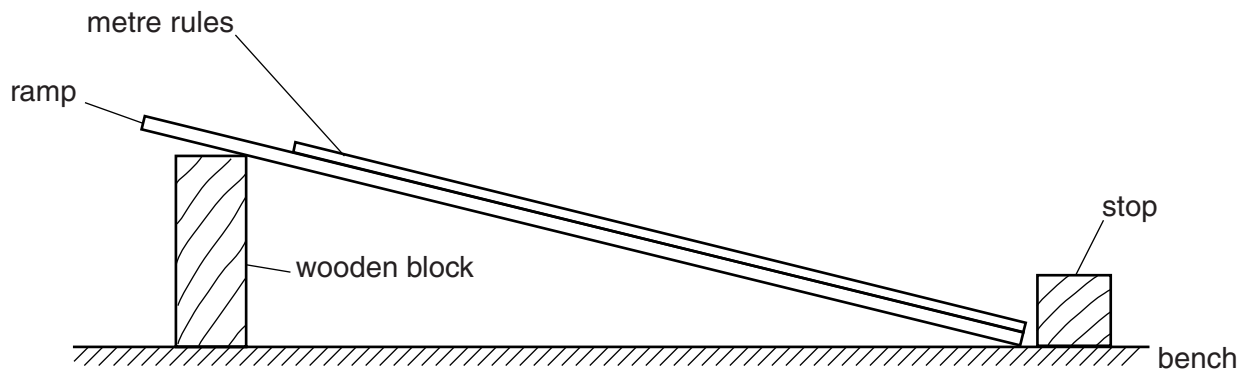

Fig. 4.2 (side view)
5. The Supervisor should set up the apparatus as shown in Fig. 4.2.